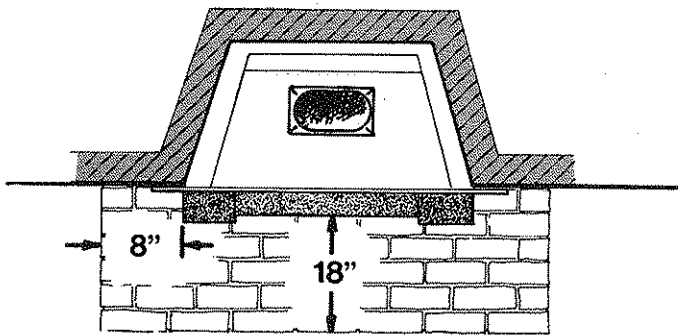

FIG. 2 HEARTH DIMENSIONS
- Protection must extend 18" from the front and 8" from the sides of the Insert. (Fig. 2).